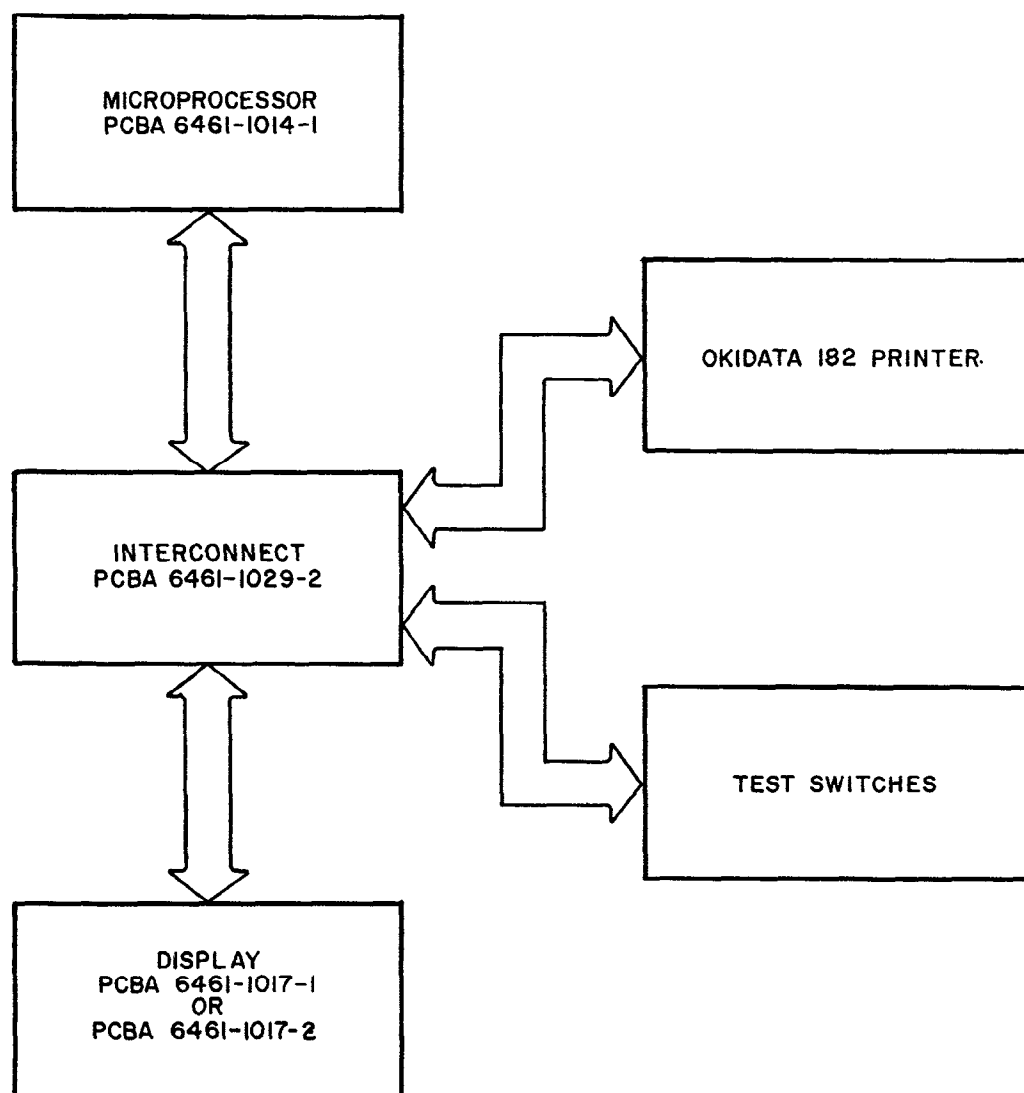

FIGURE 5-10. Indicator/Recorder Subassembly Test Set
- b. Configure the microprocessor PCBA in the test set as shown in FIGURE 5-10.
- c. Configure the display board in the test set as shown in FIGURE 5-10.